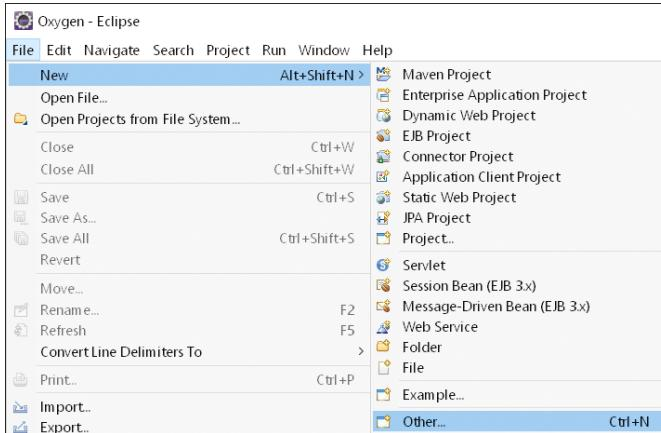

Figure 6.96 Creating a New Project in Eclipse
1. Choose **File • New • Other** (Figure 6.96).